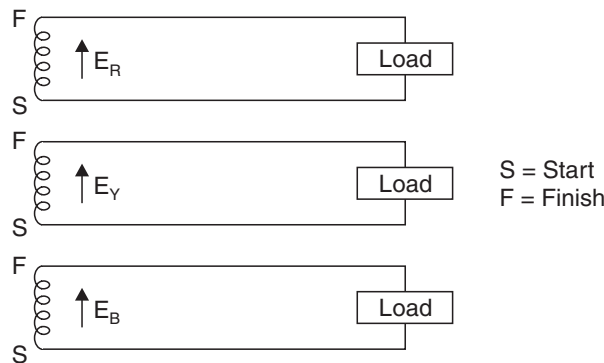

Fig. 4. Non-interlinked 3-phase system.
Each coil of three phases has two terminals [one 'start' (S) and another 'finish' (F)] and if individual phase is connected to a separate load circuit, as shown in Fig. 4, we get a non-interlinked 3-phase system. In such a system each circuit will require two conductors, therefore, 6 conductors in all. This makes the whole system *complicated* and *expensive*. Hence, the *three phases are generally interconnected which results in substantial saving of copper*.